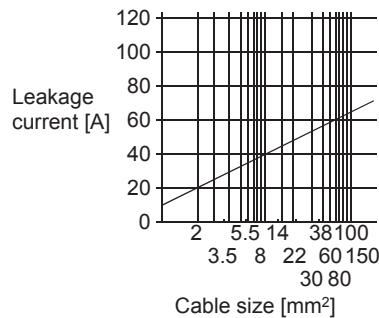

Fig. 11.1 Leakage current example (Ig1, Ig2) for CV cable run in metal conduit
- Ig1 : Leakage current on the electric channel from the leakage current breaker to the input terminals of the servo amplifier (Found from Fig. 11.1.)
- Ign : Leakage current on the electric channel from the output terminals of the servo amplifier to the servo motor (Found from Fig. 11.1.)